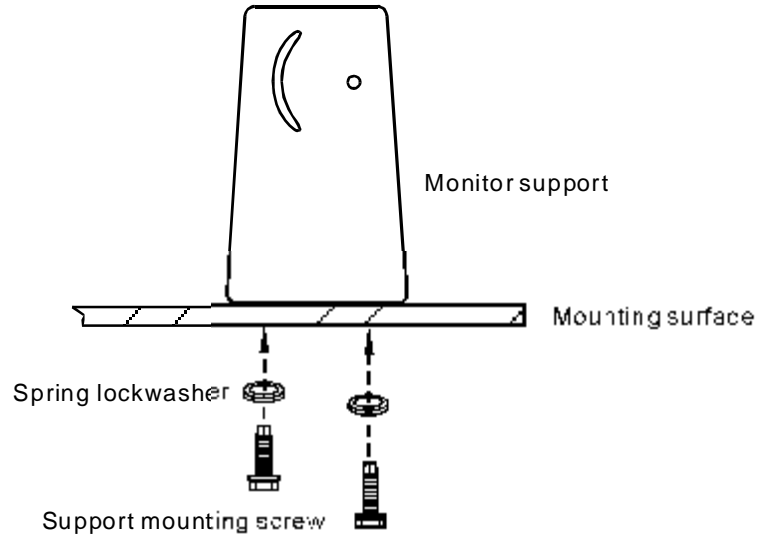

Fig.1 Mounting the support
3. See Fig.1, put spring lockwasher on mounting screw to fix the monitor support